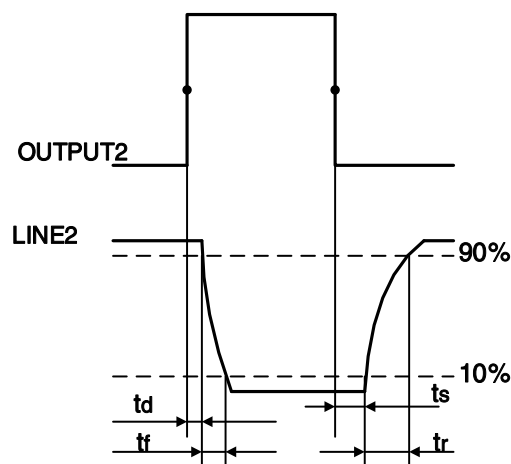

Figure 7-16 Parameter of Line2 output circuit
- Rising time delay =  $t_r+t_d$ : <20μs (0°C~45°C) (parameter description as shown in Figure 7-16)
- Falling time delay =  $t_s+t_f$ : <20μs (0°C~45°C) (parameter description as shown in Figure 7-16)